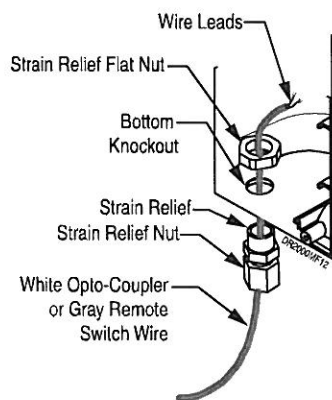

Figure 8b. Mounting Strain Relief
3. Insert wire and strain relief into the pump enclosure through the bottom knockout as shown in Figure 8b and tighten the strain relief nut.